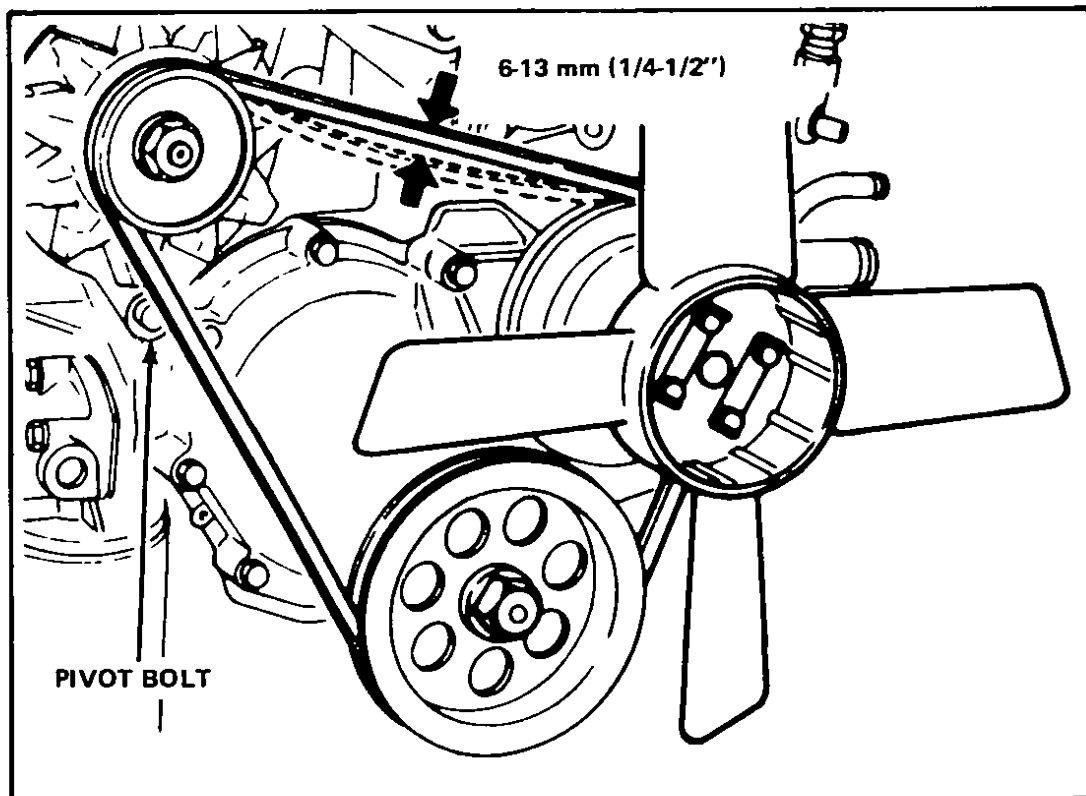

Fig 16 Measuring belt deflection
- 4 When all belts are in position, swing the units away from the engine to tighten the belts. Tighten pivot bolts, but not too tight. Using a ruler, depress the belt at the midpoint between the pulleys and measure the amount of deflection, Fig 16. The amount of deflection should be about 13 mm (1/2 inch). Move the units until you get a 13 mm (1/2-inch deflection). A good belt is too loose if a squeal is heard when the accelerator is depressed rapidly.